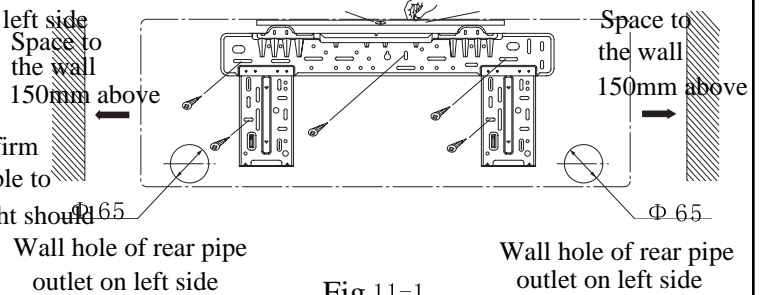

Fig.11-1
- After confirming the piping hole position according to Fig. 11-1, drill a slant hole ($\Phi 65$)